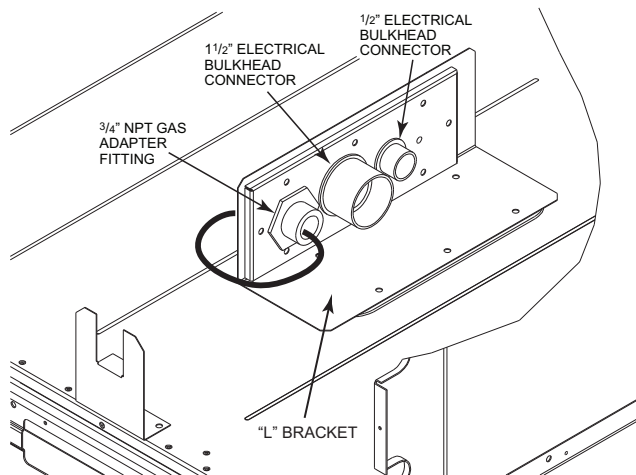

Fig. 17 — Thru-Base Connection Fittings
This service connection kit consists of a 3/4-in. NPT gas adapter fitting (stainless steel), a 1/2-in. electrical bulkhead connector and a 1-1/2-in. electrical bulkhead connector, connected to an "L" bracket covering the embossed (raised) section of the unit basepan in the condenser section. See Fig. 17.
1. Remove the "L" bracket assembly from the unit (see Fig. 17).